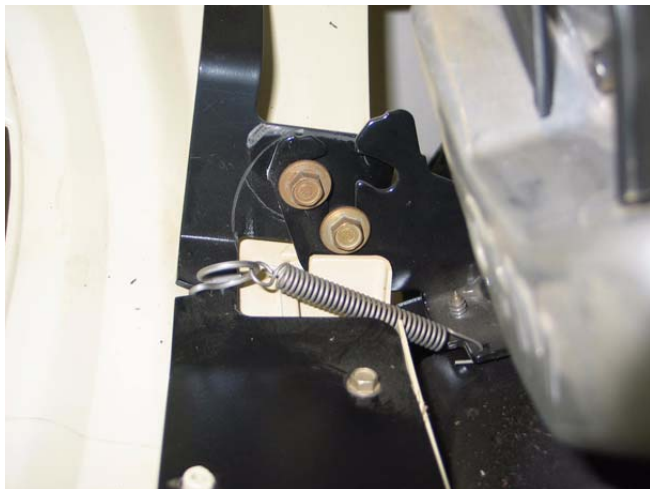

Figure 2.4
- 2.4. The 1000 Series hood can be easily removed: See Figure 2.4.